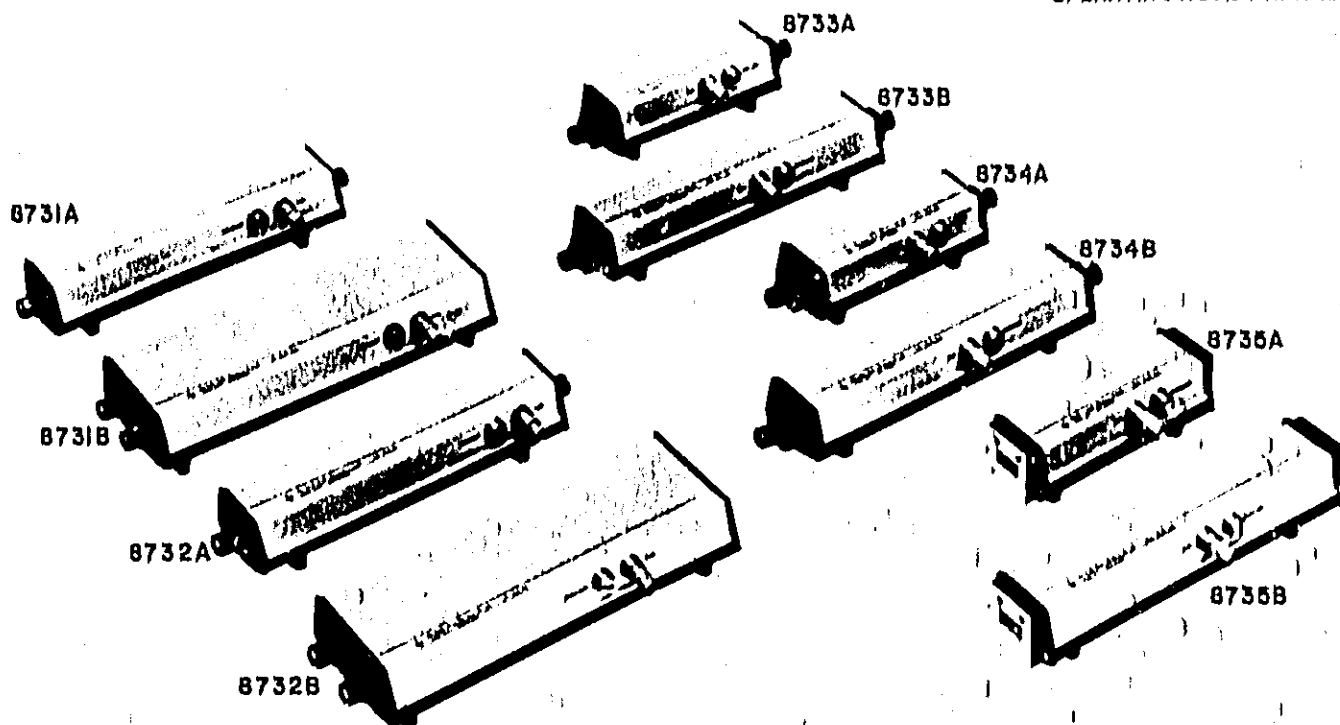

Figure 1. Model 8730 Series PIN Modulators
2. The Hewlett-Packard 8730 series of PIN modulators (Figure 1) are variable RF attenuators whose input and output impedance is nearly constant for all levels of attenuation. The 8730 PIN Modulators cover the coaxial range from 0.8 to 12.4 GHz in four overlapping bands in addition to X-band in waveguide. Two models are available in each band: an "A" model which provides at least 35 dB of attenuation range, and a "B" model which provides at least 80 dB. Typical uses include pulsing, switching, leveling, and amplitude modulating of RF signals. Table 1 lists complete PIN Modulator specifications.